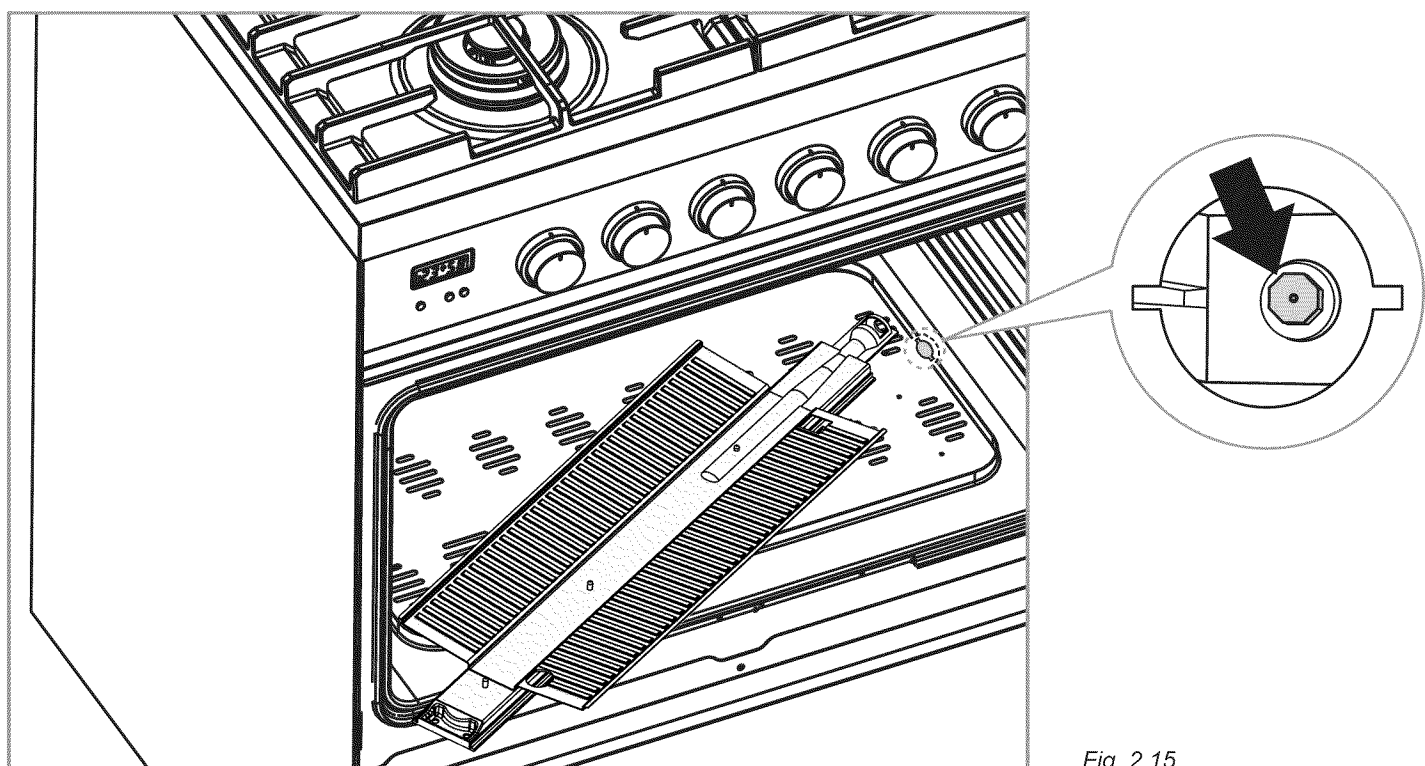

Fig. 2.15
- Withdraw the burner as shown in figure 2.15.
- Using a 7 mm box spanner, unscrew the injector (indicated by the arrow in fig. 2.15) and replace it with a new one selected in accordance with the "Injectors table".